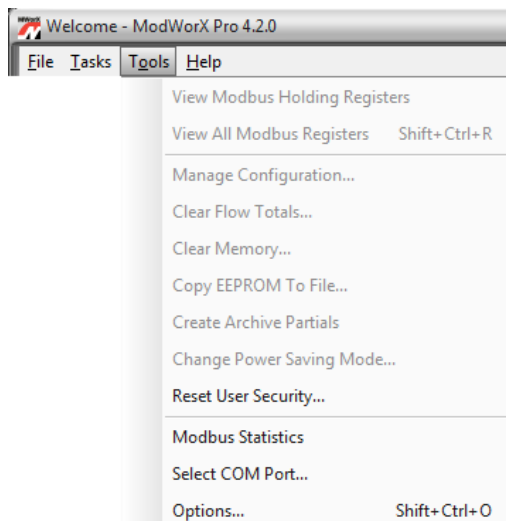

Figure 14.3
1. Using the task bar at the top of the Main Display screen, click on the **Tools** button and choose **Options** from the dropdown menu (Figure 14.3).